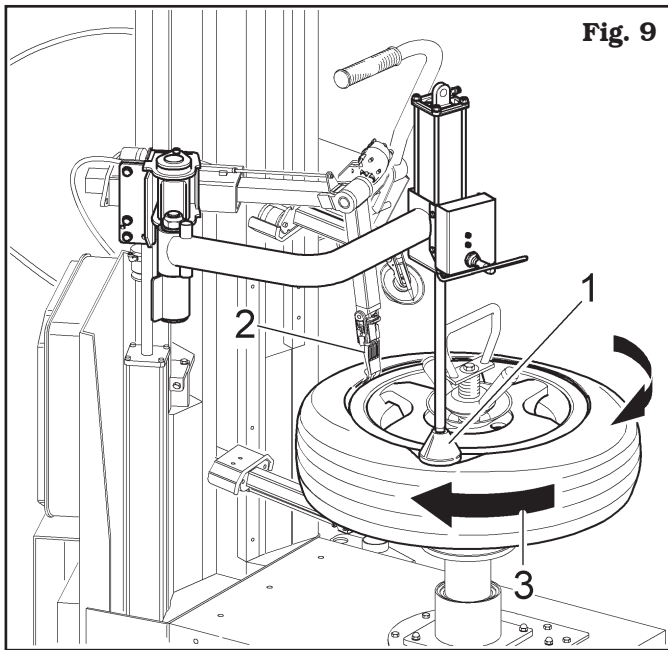

Fig. 9
- d - Start mandrel clockwise rotation (**Fig. 9 ref. 3**) by means of the proper pedal control: while performing this operation keep a hand on presser cone (**Fig. 9 ref. 1**). Such operation, that does not require any physical effort, helps keeping presser cone's correct position on the tyre.
- e - Stop mandrel rotation when presser cone (**Fig. 9 ref. 1**) is at 9 o'clock compared to the tool (**Fig. 9 ref. 2**).